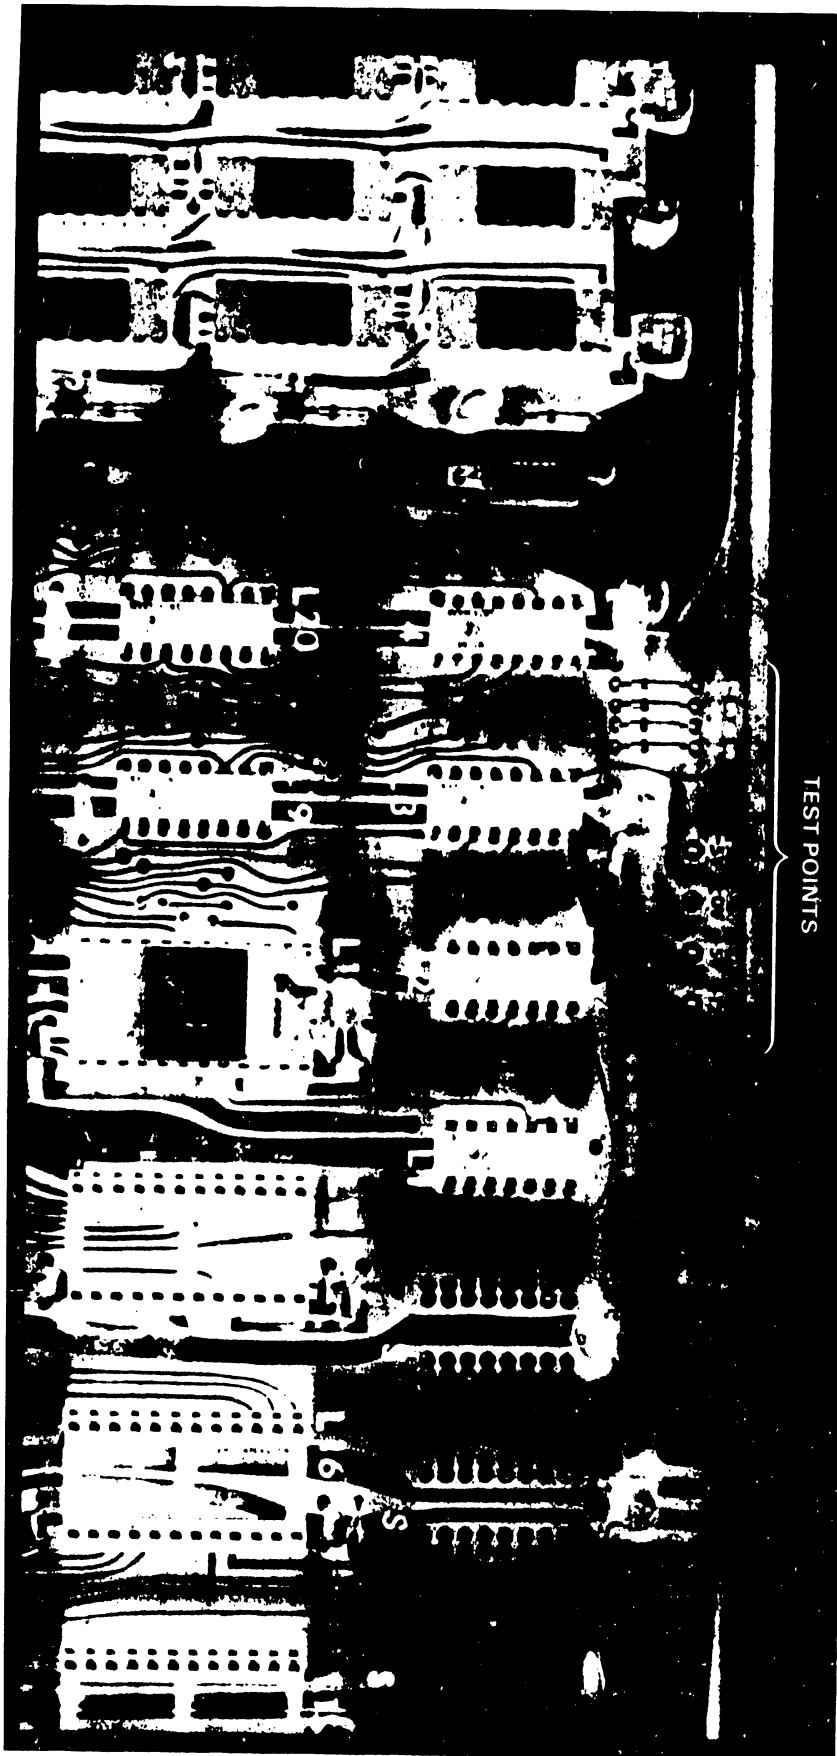

FIGURE 2-3 PCB 7201 TEST POINTS FOR MASTER OPERATING VOLTAGES
Test points (TP)for the operating voltages are labeled at the top center(component side) of the 7201 memory board. (See Figure 2-3) Voltage readings can be taken at the top of the four isolation resistors or at the TP eyelets adjacent to the resistors. Replace the Power Regulator board 7206 if voltages cannot be adjusted.